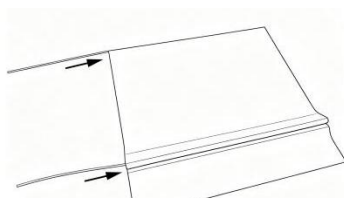
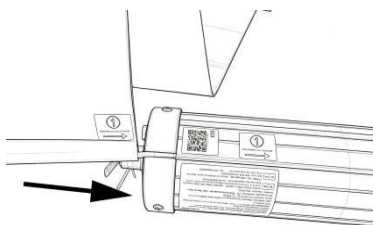
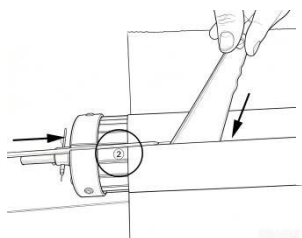
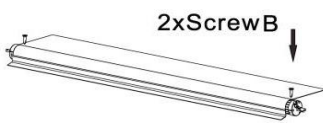

Figure C8
Figure C9
Figure C10
Figure C11
3.4.2 Insert two fabric cords into the awning fabric grooves respectively(Figure C8), then insert the shown Fabric Cord 1 into the groove of Awning Roller Tube 1 (Figure C9), then use a plastic scraper to press the fabric into the groove of Roller Tube 2, and insert the fabric cord for fixation (Figure C10),Tighten the awning fabric and drive screws to fix the fabric (Figure C11).Wind the awning fabric in the